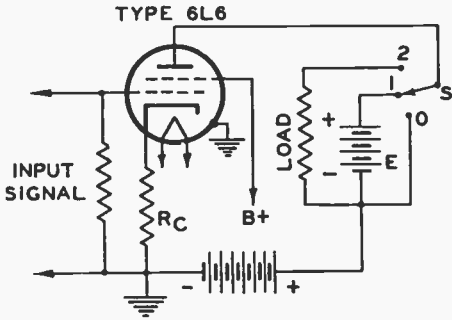
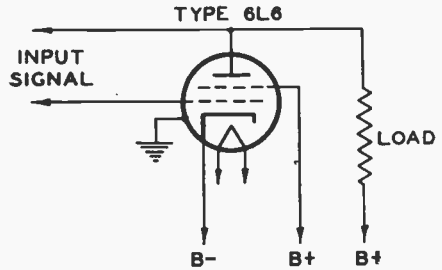

FIG. 2
FIG. 3
For those who can read a circuit diagram drawn with the conventional symbols a diagram is provided herewith. For those who cannot read symbols, a photograph of the panel with the parts laid out is shown in Fig. 2. A full size panel, 8½ x 11 inches, with pictures of the various component parts pasted on the back, also can be used as an aid to the beginner in laying out the parts and wiring them.
a portion of the alternating voltage appearing in the plate circuit. Thus, in Fig. 2, when the plate voltage is increased by an amount E by means of switch S , the control grid becomes more negative because of the increased voltage drop across the cathode resistor (R_c); this increase in negative bias reduces the plate-current change. When a signal is applied to the input and the battery (E) is replaced by a suitable load, the effect of the unbypassed cathode resistor is to increase the internal resistance of the tube as measured at the terminals of the load; therefore, the shunting effect of the tube on the load is decreased.
When the entire load resistance is common to the plate and the cathode circuit, as shown in Fig. 3, a positive increment in plate voltage causes the same increment in grid voltage. Therefore, the internal resistance of the tube decreases. As in the circuit of Fig. 2, the feedback voltage, which is the entire voltage de-
veloped across the load, is in opposite phase to the input-signal voltage. It follows that this circuit is also degenerative. When the circuit of Fig. 3 is used, the internal resistance of the tube, the distortion, and power sensitivity of the amplifier are reduced; the power output and efficiency are not changed.
The circuit of Fig. 3 alters the normal characteristics of the amplifier in such a manner that the output tube acts as though it were a low-resistance triode. The amplifier has all the advantages of a triode, plus the high efficiency obtainable from a good tetrode or pentode. In addition, the circuit may be made flexible enough to permit the tube characteristics to be changed in steps from those of a tetrode or pentode to those of a low-resistance triode.